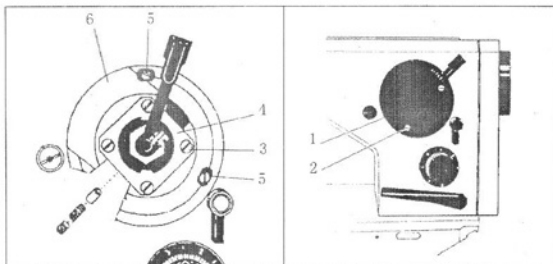

Fig. 19
2) The needle punches transversely into the center of the needle plate slot position adjustment (Fig.19)
28. The needle base point offset adjustment(Fig.19)